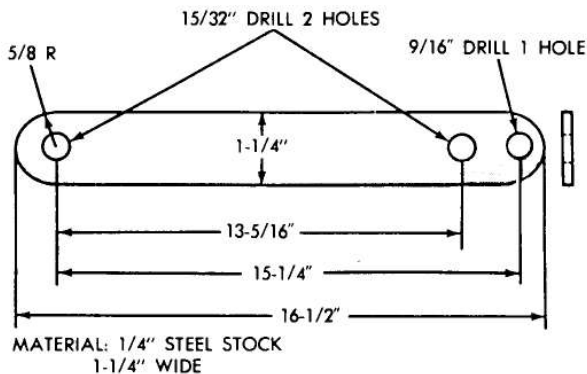

Fig. 6—Hub Seal Cup Retaining Strap
- (1) Install a dipstick bore plug and plug oil cooler line fitting.
- (2) With rotary motion, install converter hub seal cup over input shaft, and through the converter hub seal until the cup bottoms against the pump gear lugs. Secure with cup retainer strap (Fig. 6) using starter upper hole and opposite bracket hole.